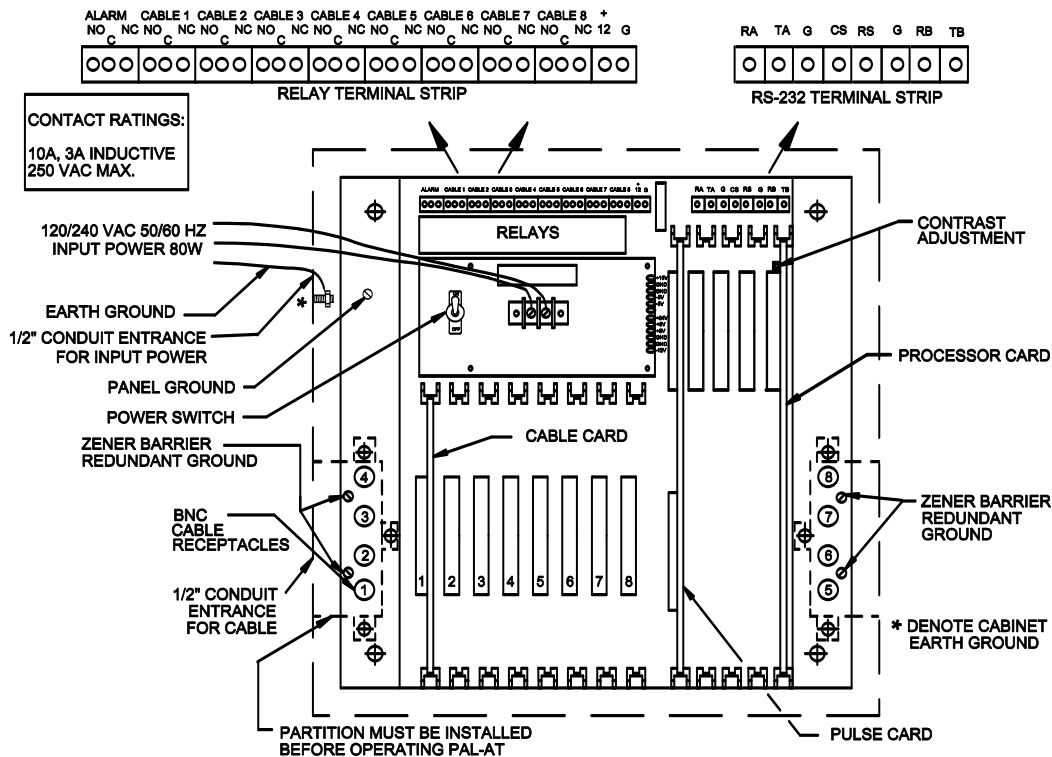
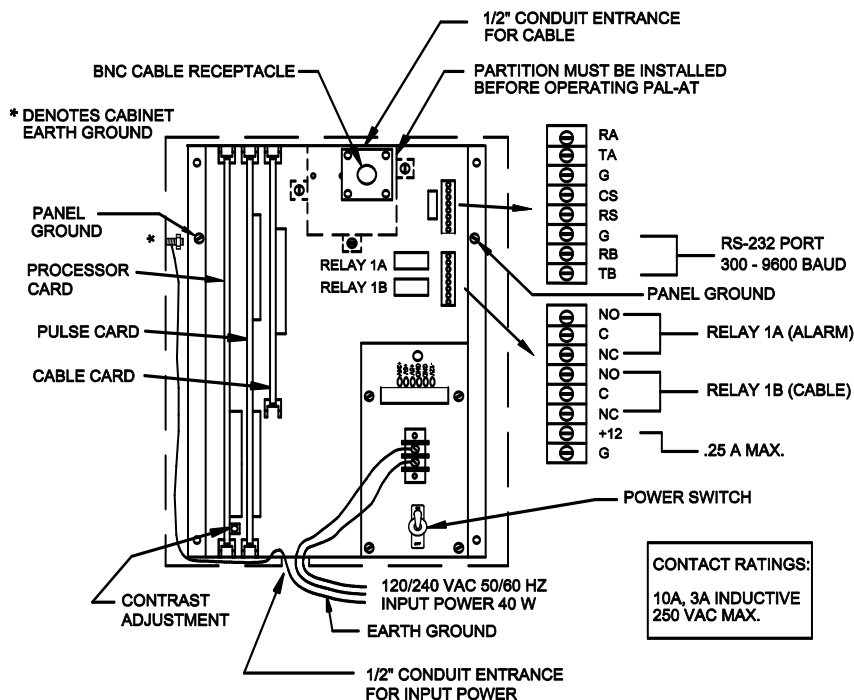

Figure 1
Figure 2
3. Wire the unit to an isolated (circuit breaker protected) 120/240 VAC 50/60 Hz circuit. Refer to Figures 1, 2 or 3 for PAL-AT alarm units wiring diagrams.
6. Install a standard connector on the jumper cable using the instructions in this manual. A BNC/UHF adapter is supplied to connect the jumper cable to the BNC connector located under the metal partition in the PAL-AT panel. The cable must exit the enclosure through the ½" conduit opening provided. (Use a knockout punch if a larger conduit is required.) Cut the jumper cable to the required length (minimum 50'), and install a standard coaxial connector as described above. Replace the partition over the jumper cable connector (see Figures 1, 2 or 3).
When PAL-AT detects a fault condition, it switches two SPDT output relays rated for 250VAC, 10A. On the AT40K and AT80K, they are labeled "alarm" relay and "cable" relay for the appropriate cable number (see Figure 1). The AT20C, AT50C, and the AT20K relays are labeled "1A", "1B", and "2B" (AT20K only) (see Figures 2 and 3). **PAL-AT is shipped with the relays configured to operate in a normally energized mode, so they de-energize in the alarm state** (see Section 2.9.1 of the "PAL-AT Operating Manual" for setting relay configuration).
PAL-AT is provided with an RS-232 communications port. Refer to Figures 1, 2 and 3 for the terminal strip location and connector pin designation. There is a 40-pin ribbon cable connected to the processor card. A 10-pin ribbon section branches off the main cable and must be connected to the socket on the motherboard next to the terminal strip.